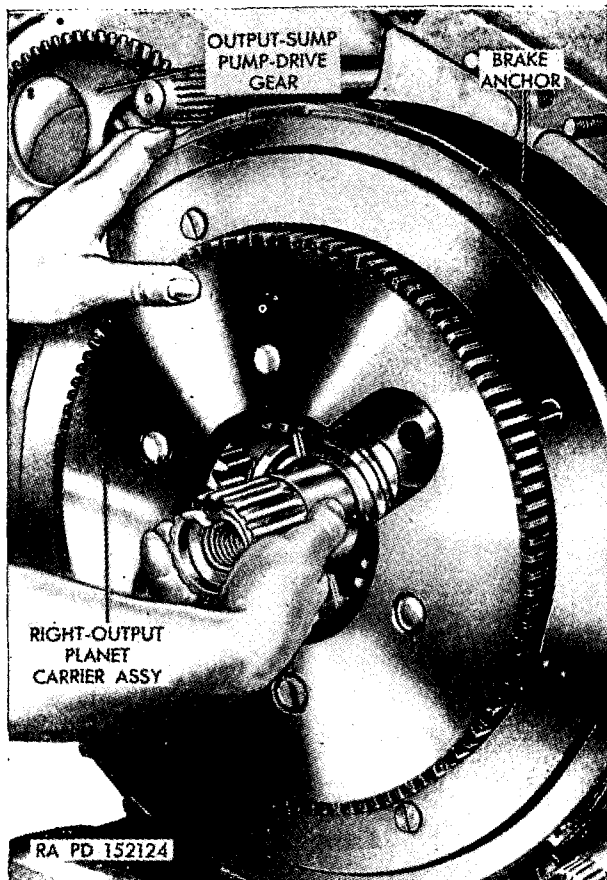

Figure 385. Installing right output planet carrier assembly.
- (15) Secure the brake-adjustment bracket to the brake-apply-cam-stationary ring with two $\frac{5}{16}$ -inch self-locking bolts torqued 17 to 20 pound-feet.
- (16) Make sure the thrust washer is in place on the internal side of the right output planet carrier assembly. Install the assembly into the brake disks, pushing and rotating the carrier assembly until it is in all the way (fig. 385).